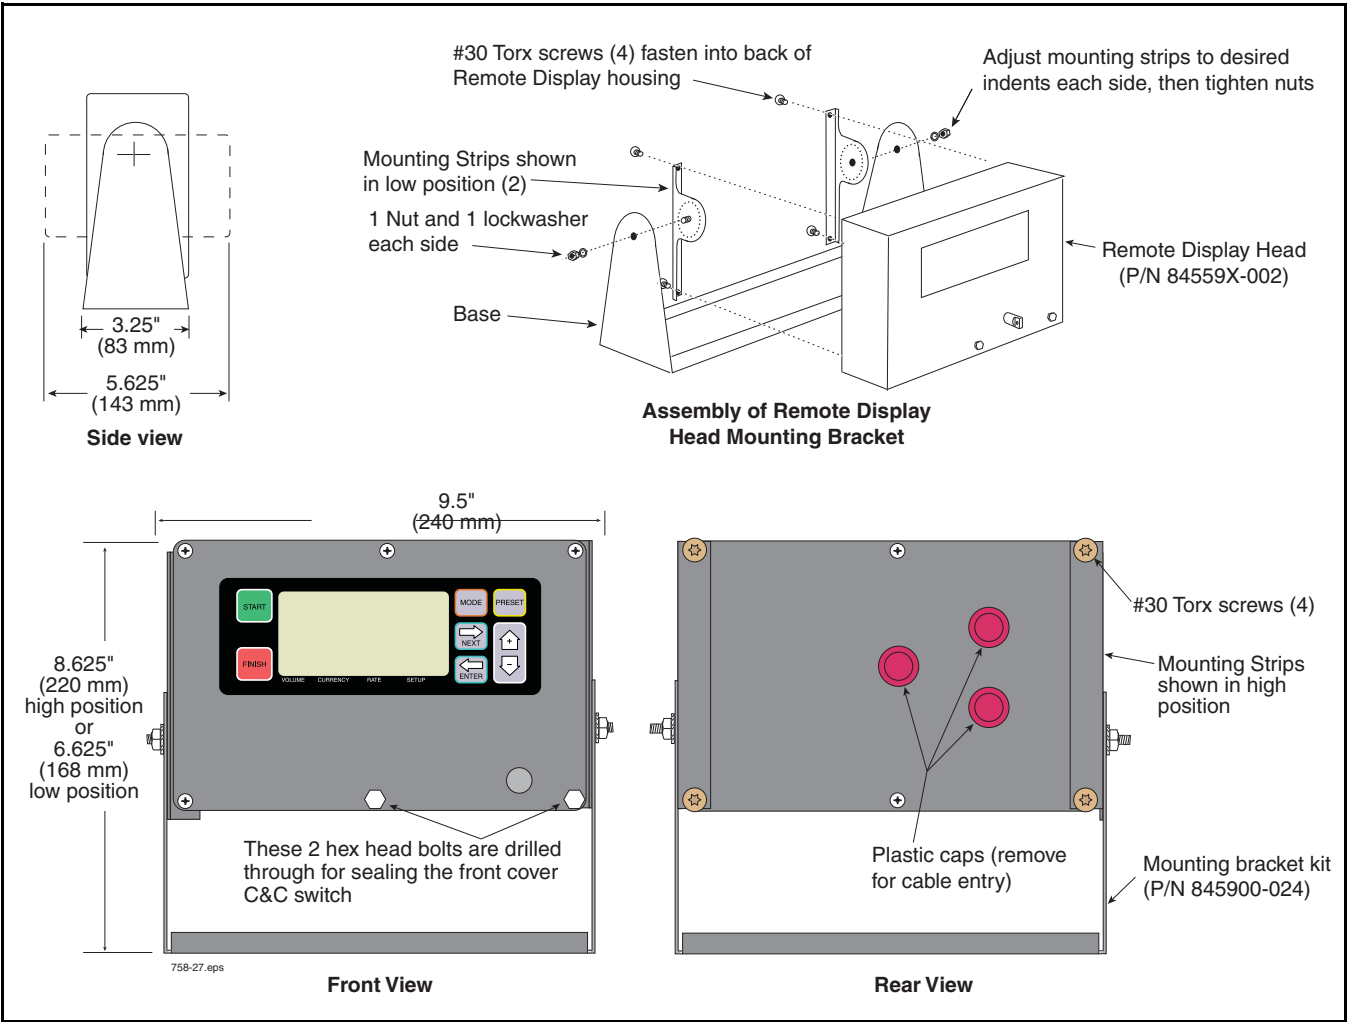
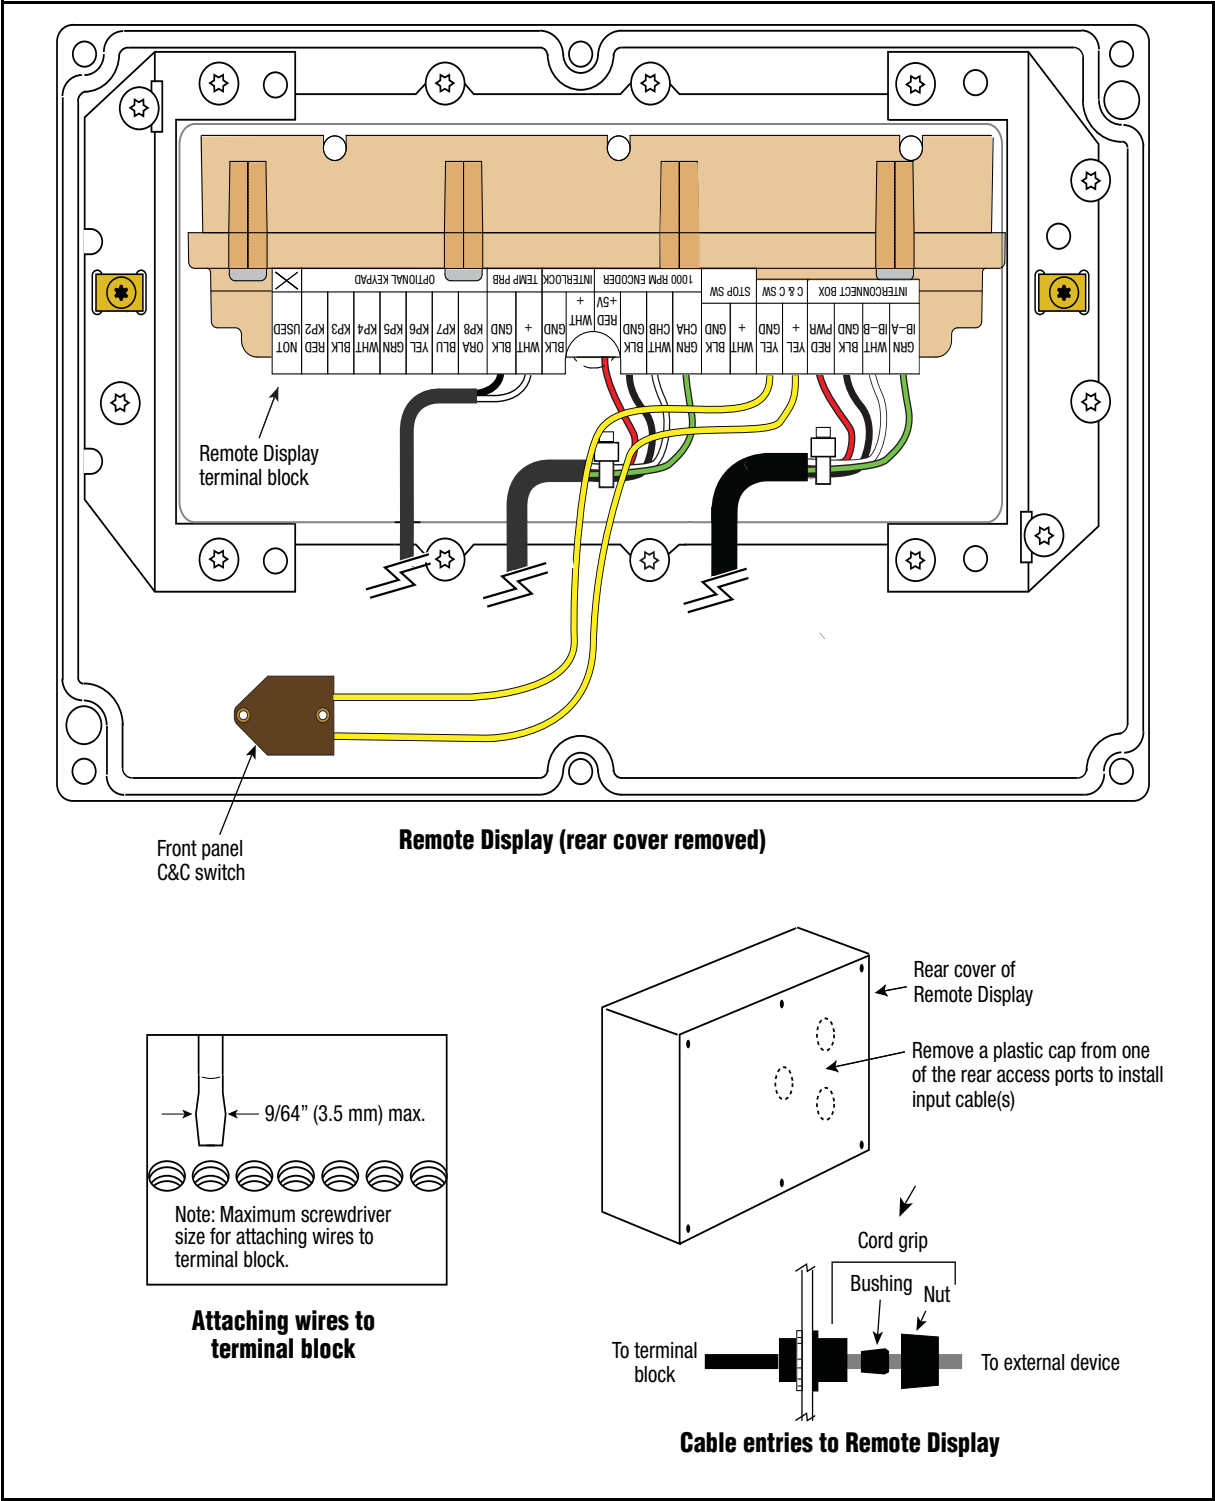

Figure 33. Remote Display Assembly
Figure 34. Remote Display Connections (Rear Cover Removed)
Figure 33 shows the Remote Display assembly and Figure 34 shows how to wire the display to the Interconnect Box. You can mount the display on a wall or dashboard of a truck, a wall in a building, or outside in a hazardous location. Use appropriate fasteners in any of the pre-drilled holes in the base of the optional bracket when attaching the bracket to the mounting surface. Adjust the angle of the display by loosening the side bolts and rotating the unit to the desired position.
Following wiring routing precautions and procedures discussed earlier (page 24) for the meter mounted Display Head, connect the Remote Display to the Interconnect Box. Wiring connections at the Remote Display are shown in Figure 34. Install optional cord grip fitting in rear of Remote Display for cable egress. Wiring connections at the IB are to the identical terminals of the unused Display Head terminal block.
3. An optional front panel C&C switch is available for the Remote Display Head (ref. Figure 34 on page 42).